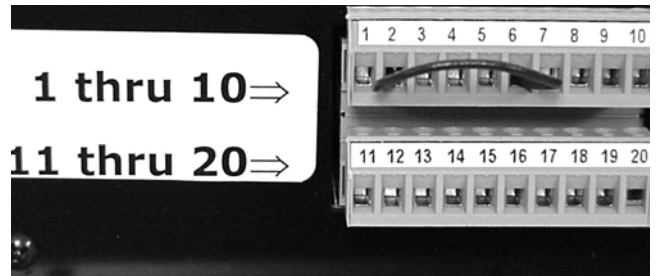

Figure 22. Contacts Connection
1. Install a jumper wire between terminals #6 and terminal #2 (see Figure 22).